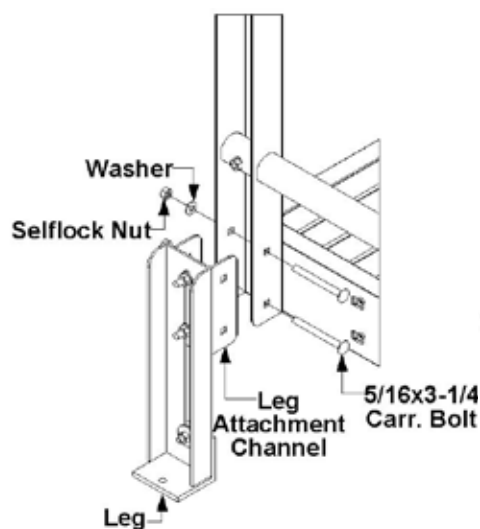
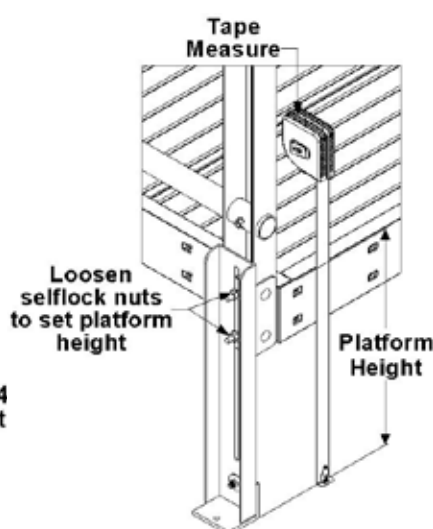

Fig.3.6
Fig.3.7
**3.3 Platform Leg Attachment:** To attach the legs to the platform place the leg attachment channel over the handrail post with one edge of the attachment channel on the inside of the handrail post and one to the outside of the handrail post. Align the holes in the handrail post and the leg attachment channel, place a 5/16 x 3 1/4" hex bolts through all and fasten with a washer and self locking nut (**Fig.3.6**). To adjust the leg height, loosen the self locking nuts on the inside of the leg channel and set landing height and retighten the self locking nuts (**Fig.3.7**). *NOTE: When adjusting platform height pressure may need to be applied to leg when re-tightening self locking nuts to hold the carriage bolts in place.*